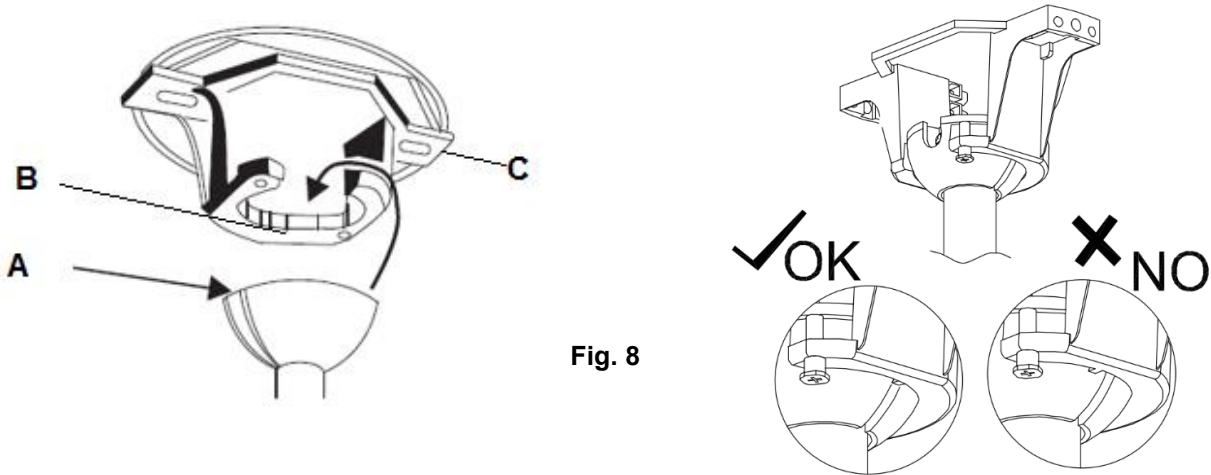

Fig. 8
Lift the fan assembly onto the mounting bracket. Ensure the key slot (A) of the hanger ball is positioned on the key pin (B) of the mounting bracket (C) to prevent the fan from rotating when in operation. (Fig.8)
Hang the fan (Refer to “hanging the fan” Fig. 8).